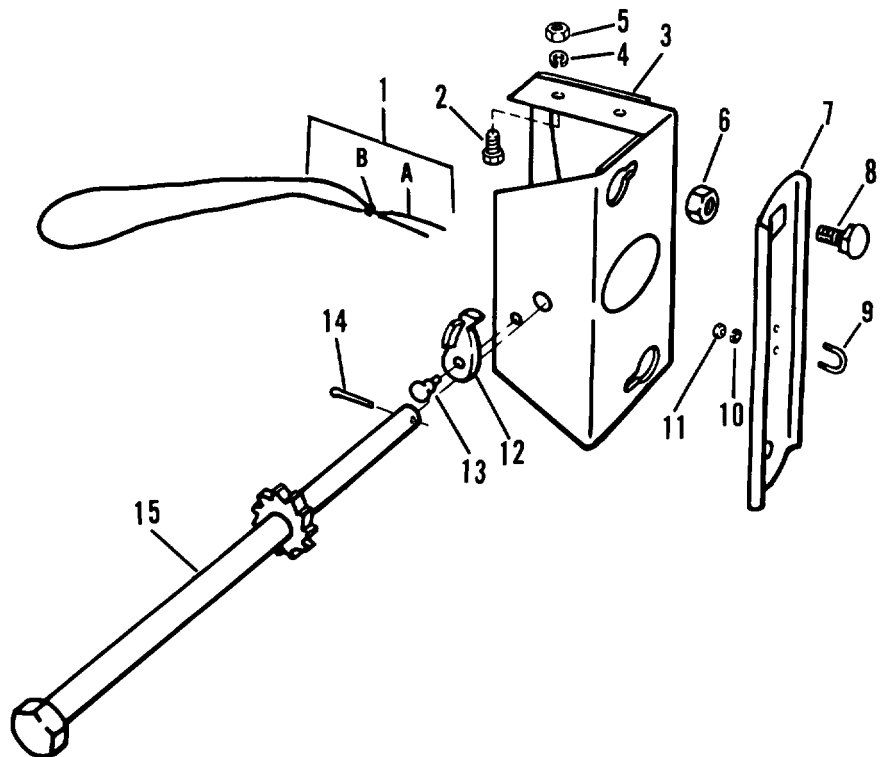

Figure 4-41. Spare tire carrier, exploded view
- a. Release cable assembly (1, figure 4-41) from wheel support (7) by removing hex nuts (11) and lockwashers (10) from u-bolts (9).
- b. Draw cable assembly (1) from holes in operating shaft (15).
- d. Thread new cable assembly through holes in operating shaft (15) until both ends are of equal length.
- e. Thread ends of cable assembly through holes in wheel support (7).
- f. Twist ends of cable assembly in loose, single knot across wheel support (7) in such a manner that both ends may be clamped with u-bolts (9).
- g. Secure cable assembly to wheel support (7) with u-bolt (9), two lockwashers (10) and hex nuts (11).
- h. Secure wheel support (7) to spare tire and wheel. Raise spare tire and wheel to carry position (para. 2-8).
(1) Remove six hex nuts (5, figure 4-41), lockwashers (4) and screws (2) attaching bracket assembly (3) to right frame rail.
(2) Remove spare tire carrier.
(1) Remove two safety nuts (6, figure 4-41) and square neck bolts (8) from wheel support (7).
(2) Remove two hex nuts (11) and lockwashers (10) from each u-bolt (9), which secures cable assembly (1) to wheel support (7).
(3) Draw cable assembly (1) from holes in operating shaft (15).
(4) Remove cotter pin (14) from operating shaft (15). Remove operating shaft (15) from bracket assembly.
- (1) Position shaft pawl (12, figure 4-41) on bracket assembly (3) and secure with rivet (13).
- (2) Insert operating shaft (15) through bracket assembly (3) and secure with cotter pin (14).
- (3) Replace cable assembly (1) in operating shaft (15) and secure to wheel support (7) with u-bolt (9), lockwashers (10) and hex nuts (11).
- (4) Install two square neck bolts (8) and safety nuts (6) on wheel support (7).
- (1) Attach bracket assembly (3, figure 4-41) to right frame rail with six screws (2), lockwashers (4) and hex nuts (5).
- (2) Install spare tire and raise to carry position (para. 2-8).